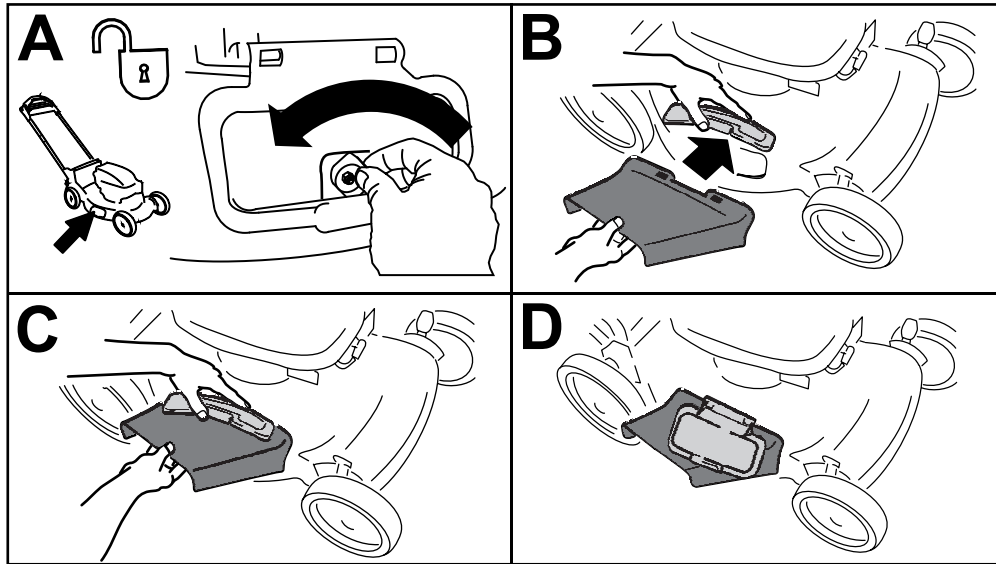

Figure 21
1. Unlock the side-discharge deflector (A of Figure 21).
2. Lift open the side-discharge deflector (B of Figure 21).
3. Install the side-discharge chute and close the deflector onto the chute (B, C, and D of Figure 21).